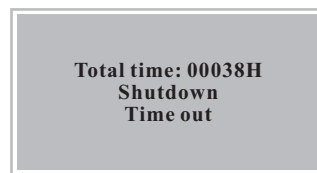

Fig. 7 Shutdown display
6) Automatic shutdown: After reaching the preset oxygen concentration time, oxygen concentrator will automatically shut down. The display of LCD is shown in Fig. 7.